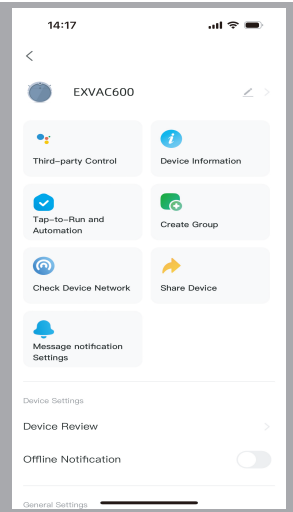

Fig. 14
F). Click “” on the main interface and enter into the interface Fig.14, users can get to know the guides of connecting EXVAC600 to the third-party, such as Alexa, Google home, etc, to create group, to share the device to family, to check device information, to update the firmware of the robot and remove the device.